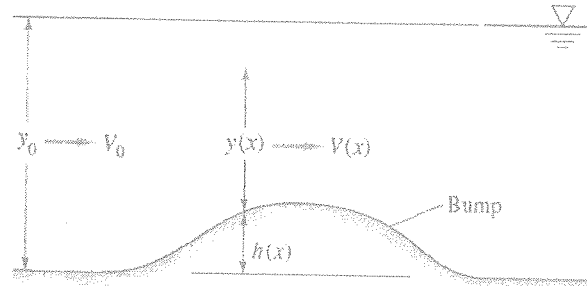

Figure Q2: Flow over a bump in a wide channel
- (ii) Consider the flow in a wide channel over a bump, as shown in Figure Q2.